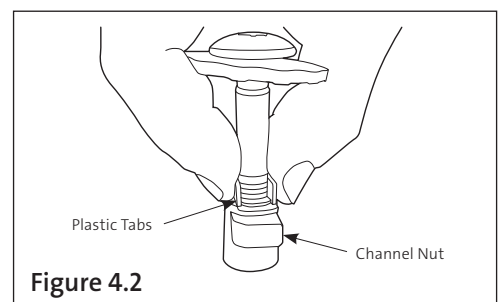

Figure 4.2
- 4.2. To install Top-clamp Assembly, hold Top-Clamp Assembly by the plastic taps above channel nut as shown in **Figure 4.2**.